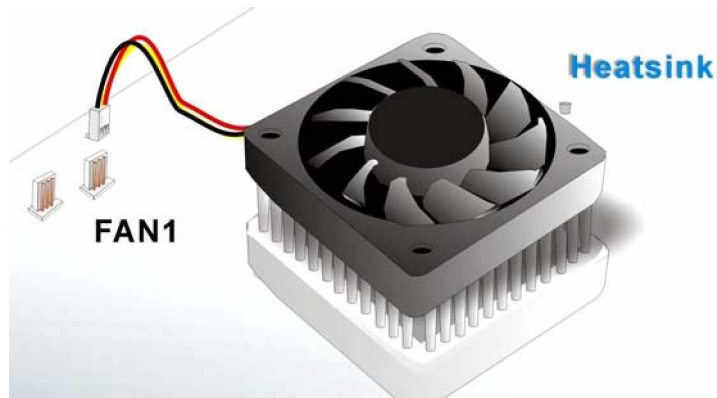

Figure 4-5: Connect the cooling fan cable
Step 4: **Connect the fan cable.** Connect the cooling kit fan cable to the FAN2 connector on the motherboard. Carefully route the cable and avoid heat generating chips and fan blades. (See **Figure 4-5**) **Step 0:**